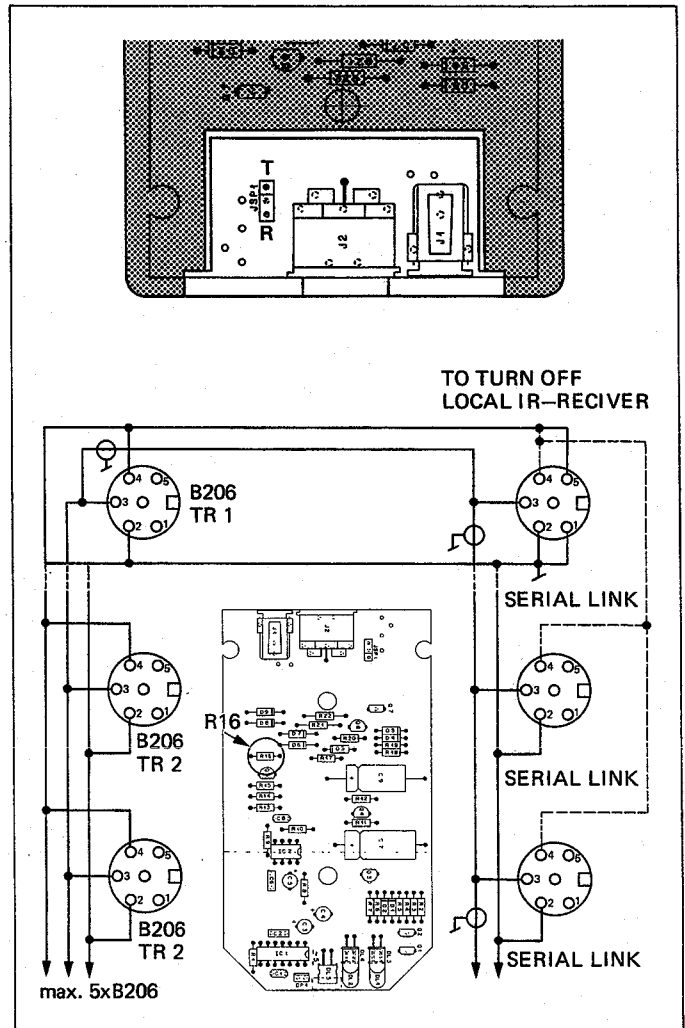

Fig. 4.1
2. Wire DIN connector for B206 Transceiver and the SERIAL LINK socket according to Fig. 4.1.
As can be seen from Fig. 4.1, several B206 Transceivers as well as several REVOX units can be connected in parallel with SERIAL LINK sockets. The installation must be executed very carefully and the connecting cables should be prepared by an experienced technician. Up to 5 B206 Transceivers can be supplied by one unit of the hi-fi system. The resistors R16 in the transceivers 2 through 5 must be removed.
* On all units with SERIAL LINK the internal IR receiver can be switched off. (In the connector Link pin4 with pin5, as well as pin1 with pin 2. Caution in the case of parallel-connected units: see Fig. 4.1.)